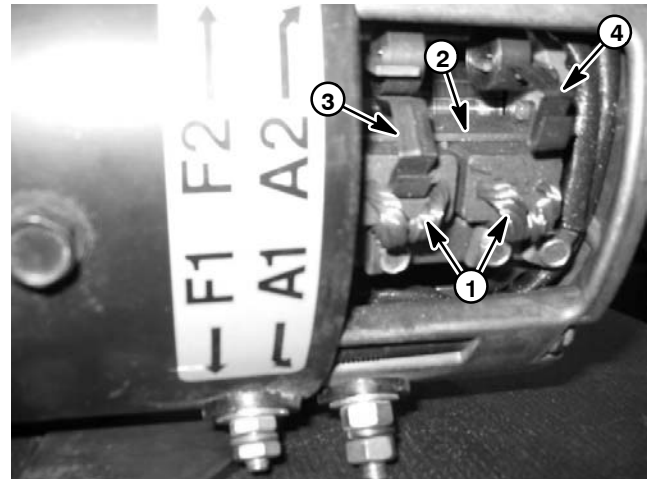

Figure 48
4. If end of brush is even with the brush holder (Figs. 48 and 50), brushes should be removed from motor for inspection and measurement (see Traction Motor Service in this section).